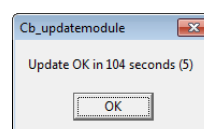

Fig. 113 - Update complete
- STEP 6:** The tool automatically filters all unrelated firmware files; you cannot select incorrect files. Choose the firmware and click 'Open'. The firmware update will start automatically. You should see the windows as shown in **Fig. 114** and **Fig. 113**.